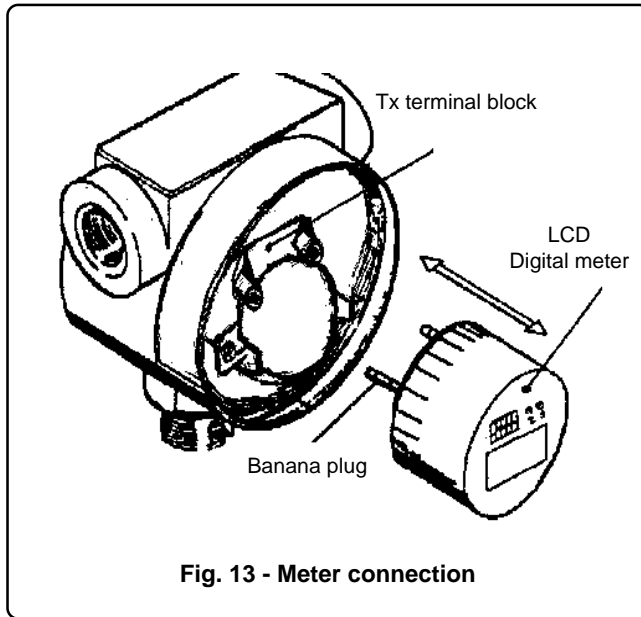

Fig. 13 - Meter connection
- 4) Plug the meter (see fig. 13) and rotate as required. The meter can rotate, in 15° steps, 270° degree clockwise and 75° counterclockwise (see fig. 14). Further rotation causes damage to the meter stop or to the "banana" connections and should be avoided. Note that considerable torque must be applied for 15° rotation.